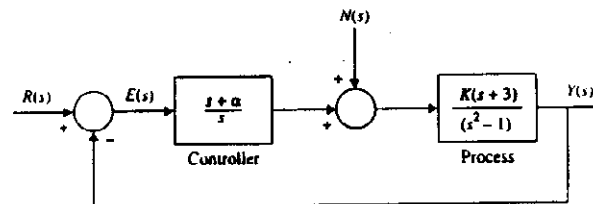

Fig. 4
4. The block diagram of a linear control system is shown in Fig. 4, where $r(t)$ is the reference input and $n(t)$ is the disturbance.